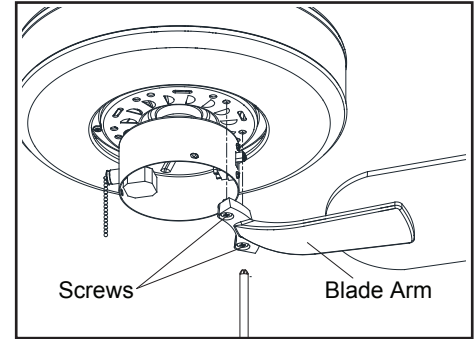

Figure 11
3. Fasten the blade assembly to the motor by aligning the screw holes on the bottom of the fan motor with the holes on the blade arm, and tightening the motor screws. Please note that the motor screws are pre-attached into the blade brackets. (Figure 11)